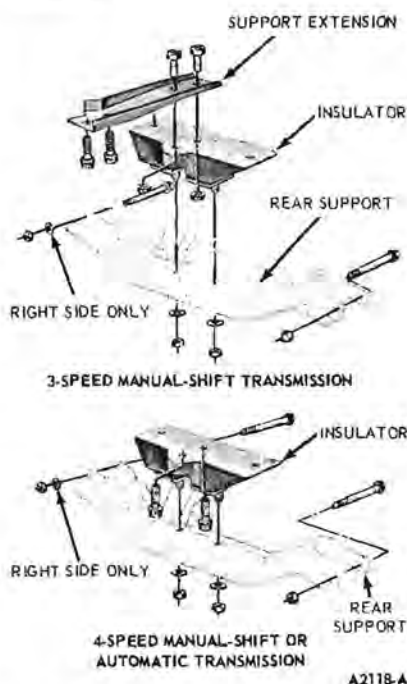

FIG. 14—Mustang Engine Rear Support
1. Remove the insulator to rear support nuts and washers (Fig. 14).
1. On a 4-speed, manual-shift or an automatic transmission, position the insulator against the transmission and install the insulator to transmission bolts and washers (Fig. 14). Torque the bolts to specifications.